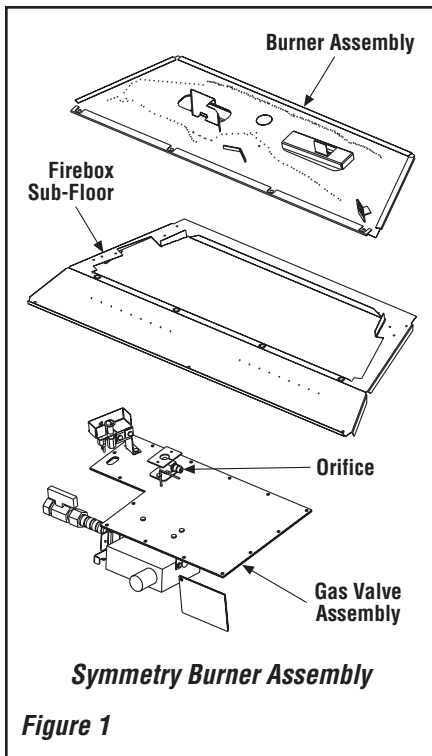

Figure 1
Step 3. See *Figures 1 and 2*. Remove the burner assembly with attached venturi tube.
Step 13. (Refer to *Figures 1 and 2*)